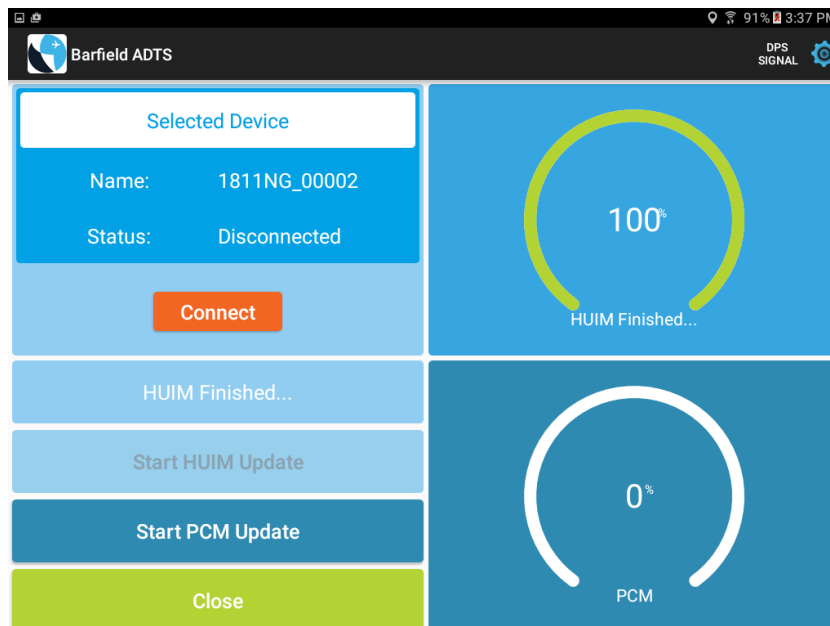

Figure E. 5 End of HUIM Update Screen
- e) A “Connect” button appears in the information panel. Touch the “Connect” button and the app will connect to the previously selected unit (Fig. E. 5).